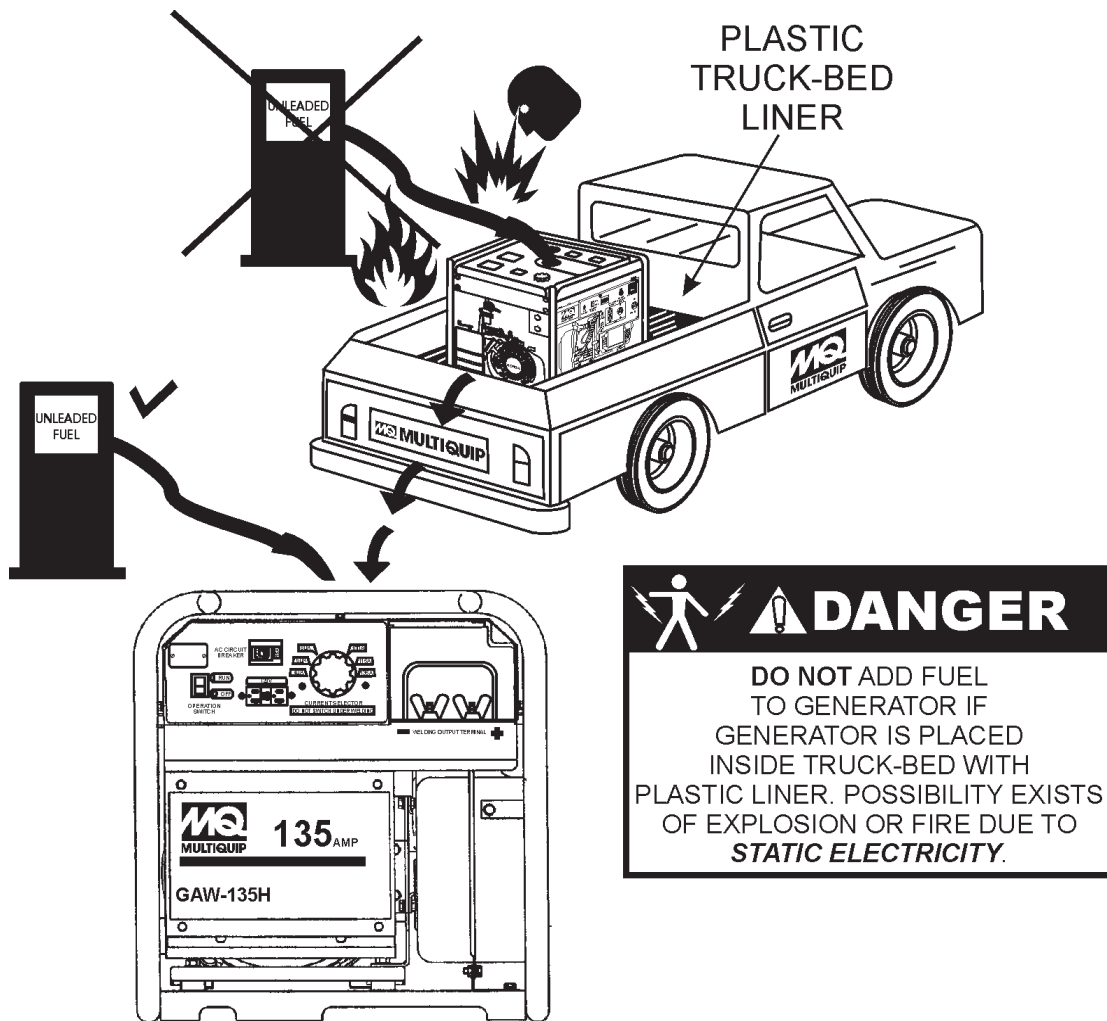

Figure 3. Generator/Welder Refueling
Adding fuel to the tank should be done only when the engine is stopped and has had an opportunity to cool down. In the event of a fuel spill, **DO NOT** attempt to start the engine until the fuel residue has been completely wiped up, and the area surrounding the engine is dry. If generator is placed in a truck bed with a plastic liner, **REMOVE** generator from truck bed and place on ground (Figure 3) to refuel. This possibility exist of *fire* or *explosion* due to static electricity.
2. When grounding the generator (Figure 3) connect the ground cable between the lock washer and the nut on the generator and tighten the nut fully. Connect the other end of the ground cable to earth ground.